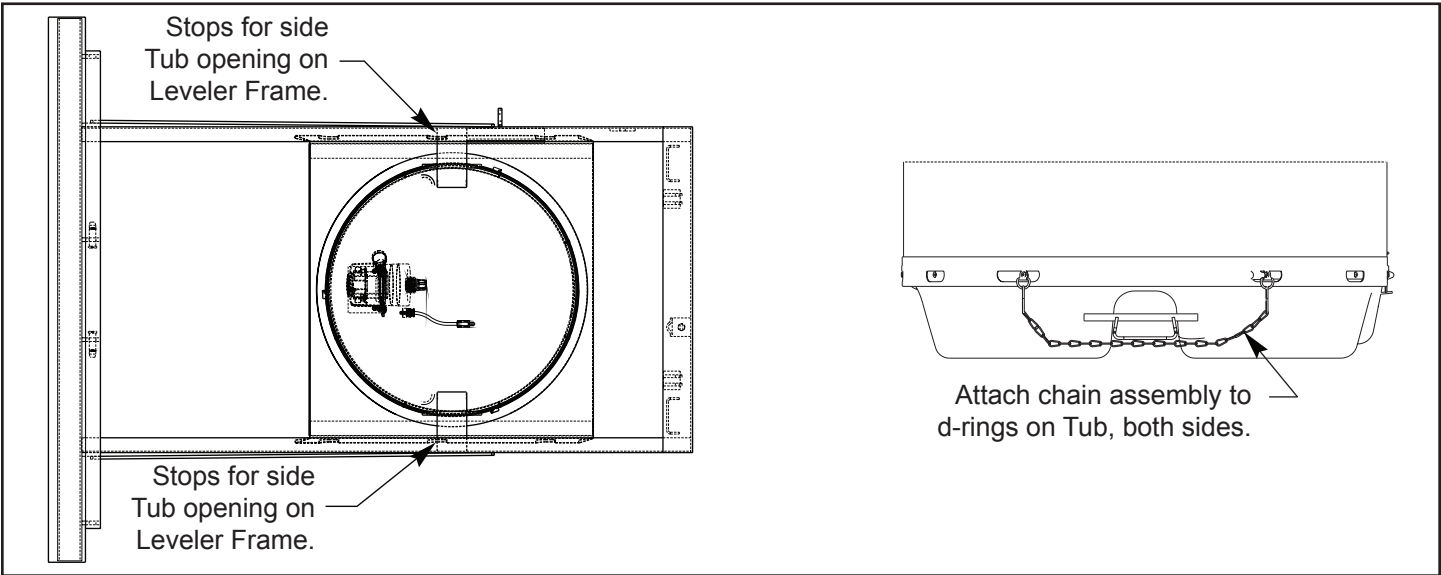

FIGURE 11 - TUB PLACEMENT
11. Check Air Tower Tub placement in leveler frame is correct. Pit floor must be clear of obstructions where plastic tub is located. Make certain tub hold down chain is snug – no slack. See figure 11.